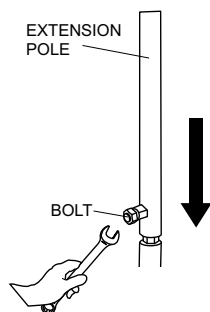

Figure 6. Extension Pole Attachment
4. For the GBCE, attach the extension pole to the top of the mast as shown in Figure 6.